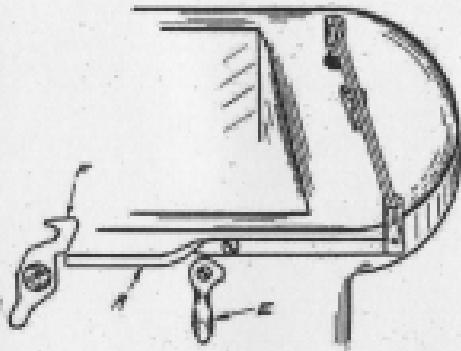

Fig. 2
When connecting the tubes (See Figure 2) screw tight body (A) in place. Then draw sleeve (B) back about one-half an inch from end of tube. Place tube in the body as far as possible, holding firmly and screwing sleeve tight into the body. It is advisable to remove screws holding down the thermostat when making the upper connections. The loops in the tubes allow adjustment for any variation between the connecting ports.